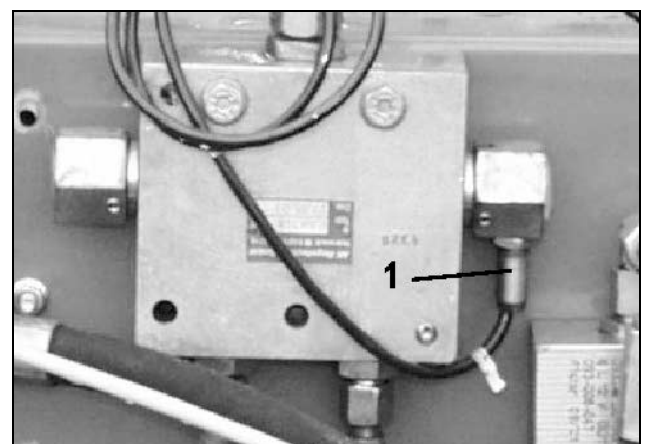

Fig. 51
- on implements with track markers from the sensors (Fig. 51/1) when changing the track marker
- on implements without track markers as soon as the distance sensor (Fig. 51/1) does not send any impulses, e.g. when raising the implement at the headlands or at a standstill in the field.